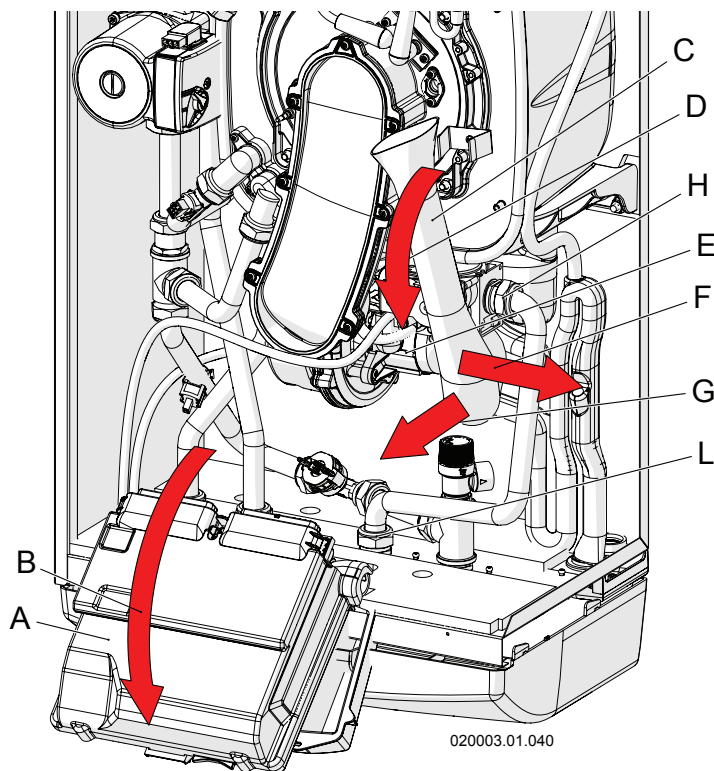

Figure 6-3 – Removing the air manifold
- 6.- Remove the air manifold, making sure to rotate it outwards and then slide it out of the fan inlet (see Figure 6-3, detail "C");
- 7.- Remove the gas inlet pipe using the two fittings (see Figure 6-3, details "H" and "L");
- 12.- Refit the gas supply pipe via the two fittings (see Figure 6-3, details "H" and "L");
- 13.- Refit the air manifold (see Figure 6-3, detail "C");